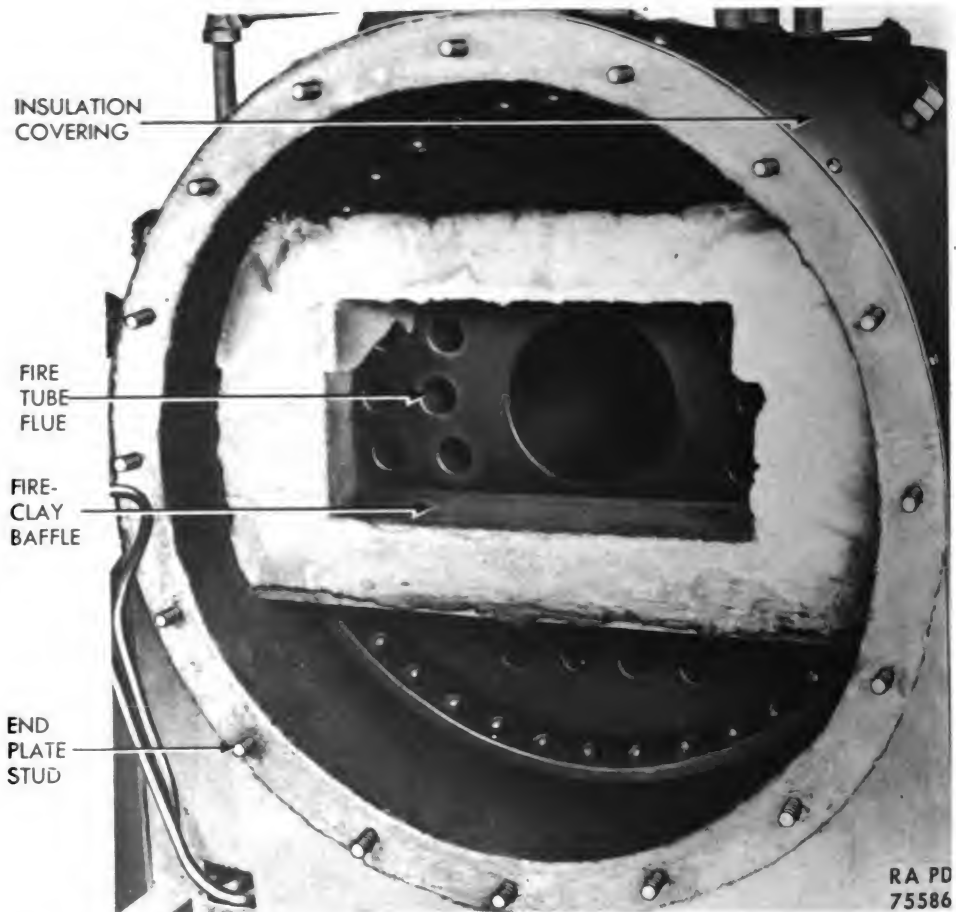

Figure 98 — Steam Generating Plant Boiler With End Plate Removed
(2) BOILER (fig. 98). The boiler is a horizontal, 4-pass, down-draft, fire tube, internally fired, self-contained type. It is of steel construction and cylindrical in shape. It has integral internal fire chamber and flues to facilitate transmission of heat to the water. The internal diameter of each of the flues is 2 inches. A 2-inch blanket of mineral wool insulation enclosed in a steel outer covering insulates the upper half of the boiler.